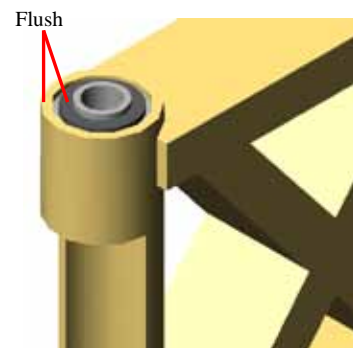

Figure 3
- NOTE: It is strongly recommended that NEW tolerance rings and clevebloc's be used when installing pivot components to Champion Swing Arm. Using the PRESS PLUG, press the spacer, plastic ring and clevebloc into one side of the Swing Arm. Insure that the stepped surface of the clevebloc is flush with the outer surface of the Champion Swing Arm. Figure 3